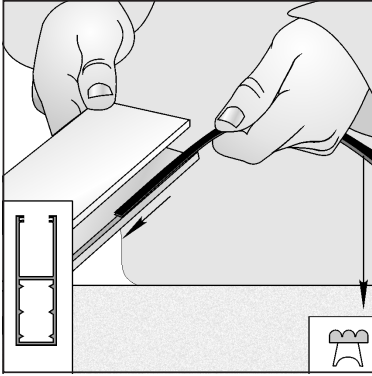

Fig. 05
- installing the sealing inserts in the guide rails (Fig. 05, 06);